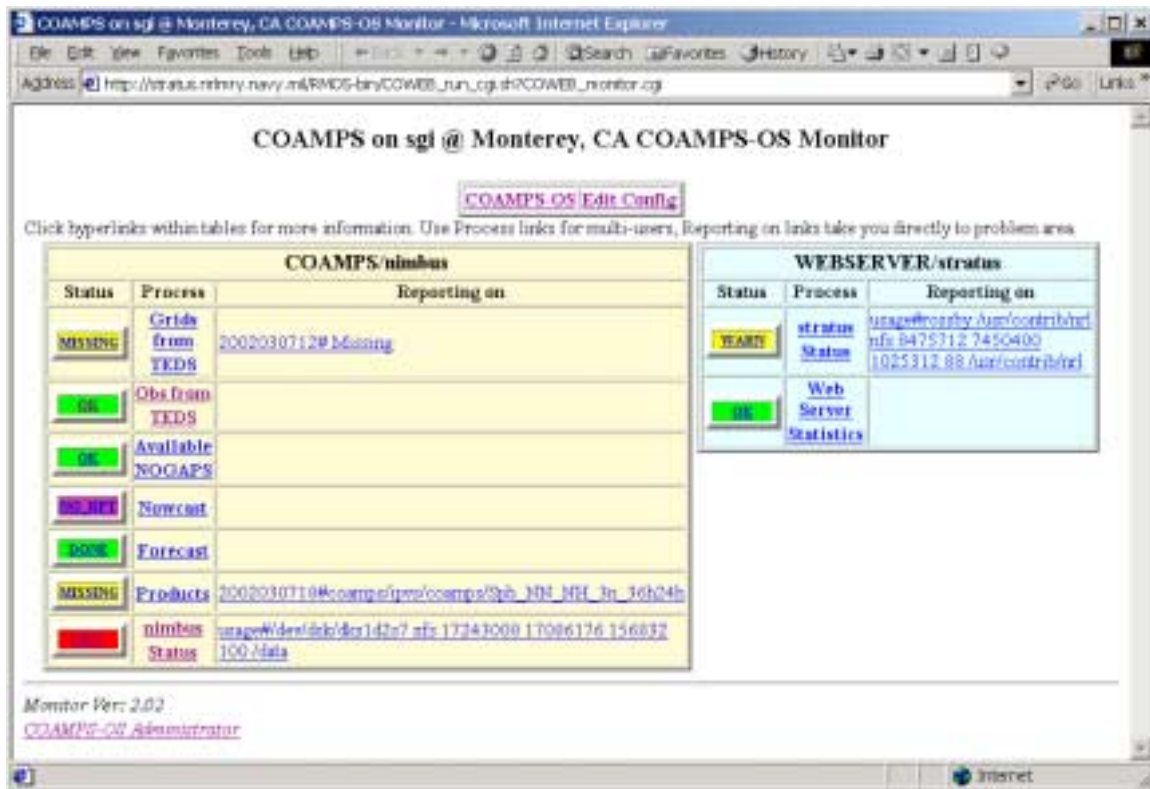

Figure 32. COAMPS-OS Remote Monitor
5. After the **OK** button has been selected, COAMPS will start immediately. The user will be informed that COAMPS has started, and a separate web browser window will open displaying the COAMPS-OS Remote Monitor as shown in Figure 32.